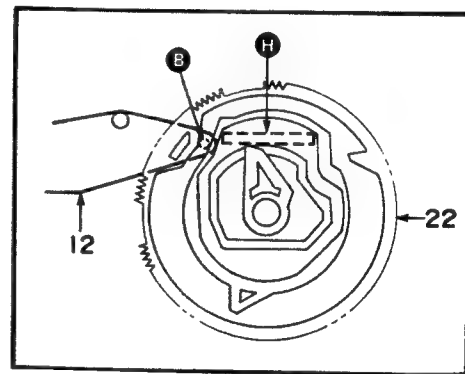

Fig. 6
- 1-12) The FD GEAR is locked in position of Fig. 6 by the pin ⑧ of the FD ARM, and the P/R and E heads fixed on the SUB-CHASSIS are held in the PLAY/REC position.